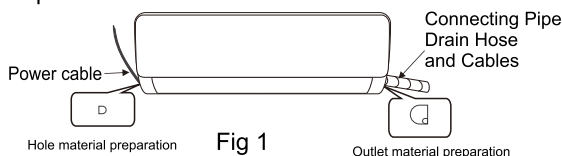

Fig 1
1. Depending on the position of the unit, the piping may be routed sideway from the left or the right (Fig 1), or vertically from the back(Fig 2)(depending on the pipe length of the indoor unit). In the case of sideway routing, cut off the outlet cutting stock of the opposite side.